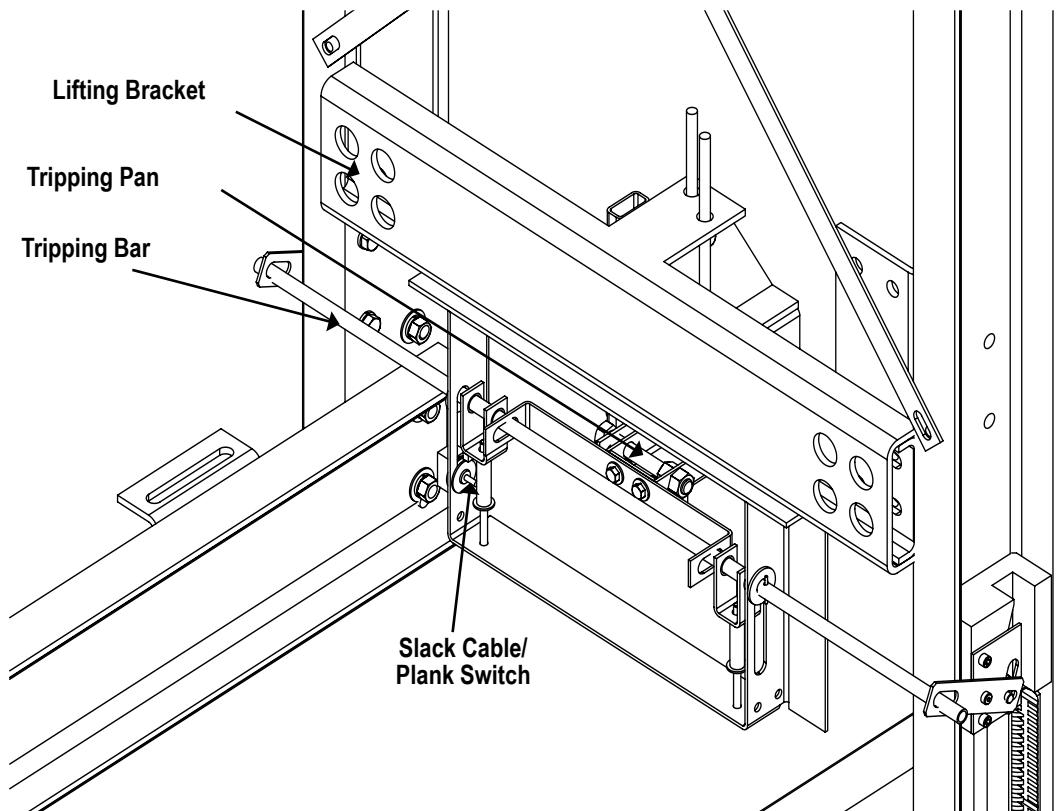

Figure 119 Slack Cable Switch
- 5) To reset the valve, simply raise the lift from the safeties and allow pressure to return to the hydraulic system. The valve will automatically reset. Take care that any slack cable is carefully aligned with the sheave prior to raising the plunger and reset the slack (plank) cable switch on the sling of the cab. Refer to Figure 119.